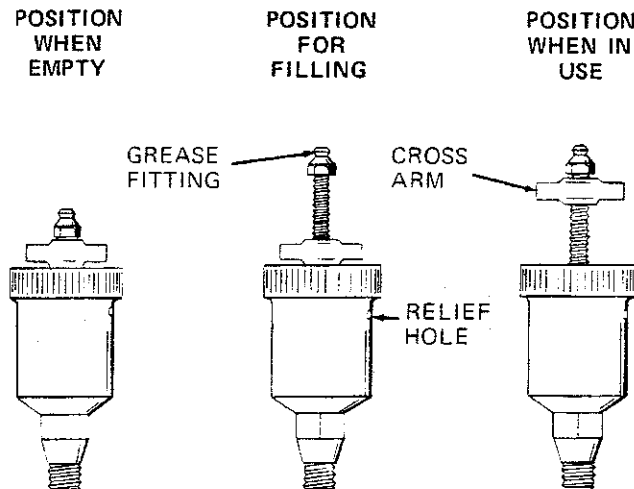

Figure 3. Automatic Lubricating Grease Cup
Before removing the seal assembly, turn the cross arm on the seal grease cup (5) clockwise until it rests against the cover (see figure 3). This will prevent the grease in the cup from escaping after the seal is removed.
Before starting the pump, fill the grease cup through the grease fitting with a good grade of No. 2 pressure gun grease until grease escapes from the relief hole. Turn the grease cup arm counterclockwise until it is at the top of the stem; this will release the spring to apply grease to the seal (see figure 3).